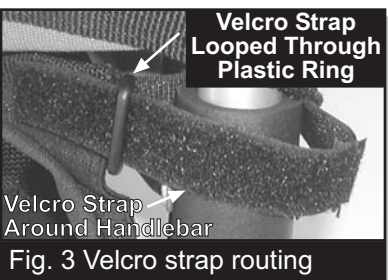

Fig. 3 Velcro strap routing
B) Continue wrapping the velcro strap around the handlebar and insert through the black plastic ring as shown in figure 3.